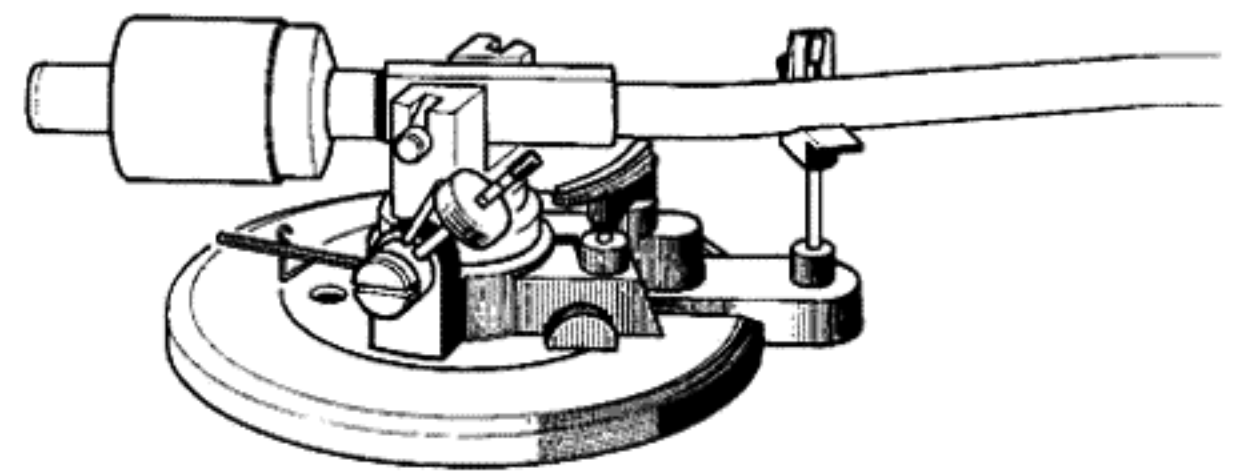

Fig. 10
2. Confirm that the anti-skating rod is hooked on the spring (Fig. 10) and the cueing lever is  $\nabla$  (down).